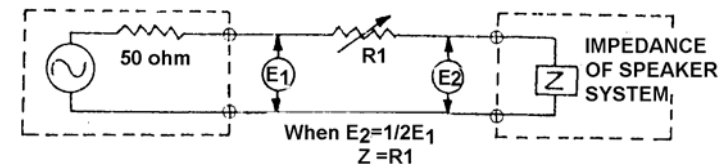

Figure 10
(1) Connect the setup as figure 10, where R1 is the potentiometer to find out the impedance of DUT. E1 and E2 are voltmeters used to monitor the voltages of the source and the DUT.